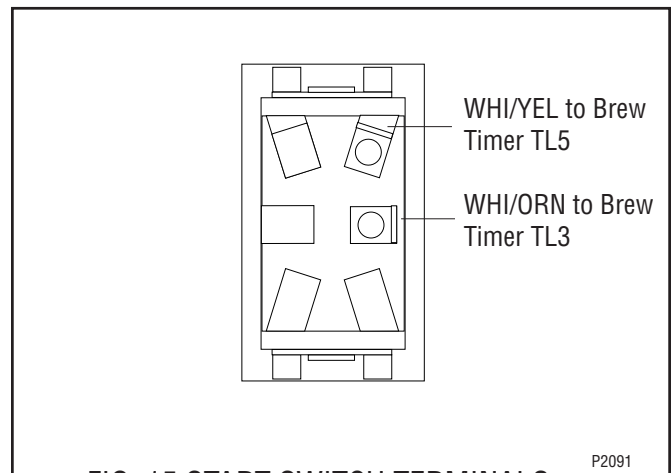

FIG. 15 START SWITCH TERMINALS
4. Refer to Fig. 15 when reconnecting the wires.